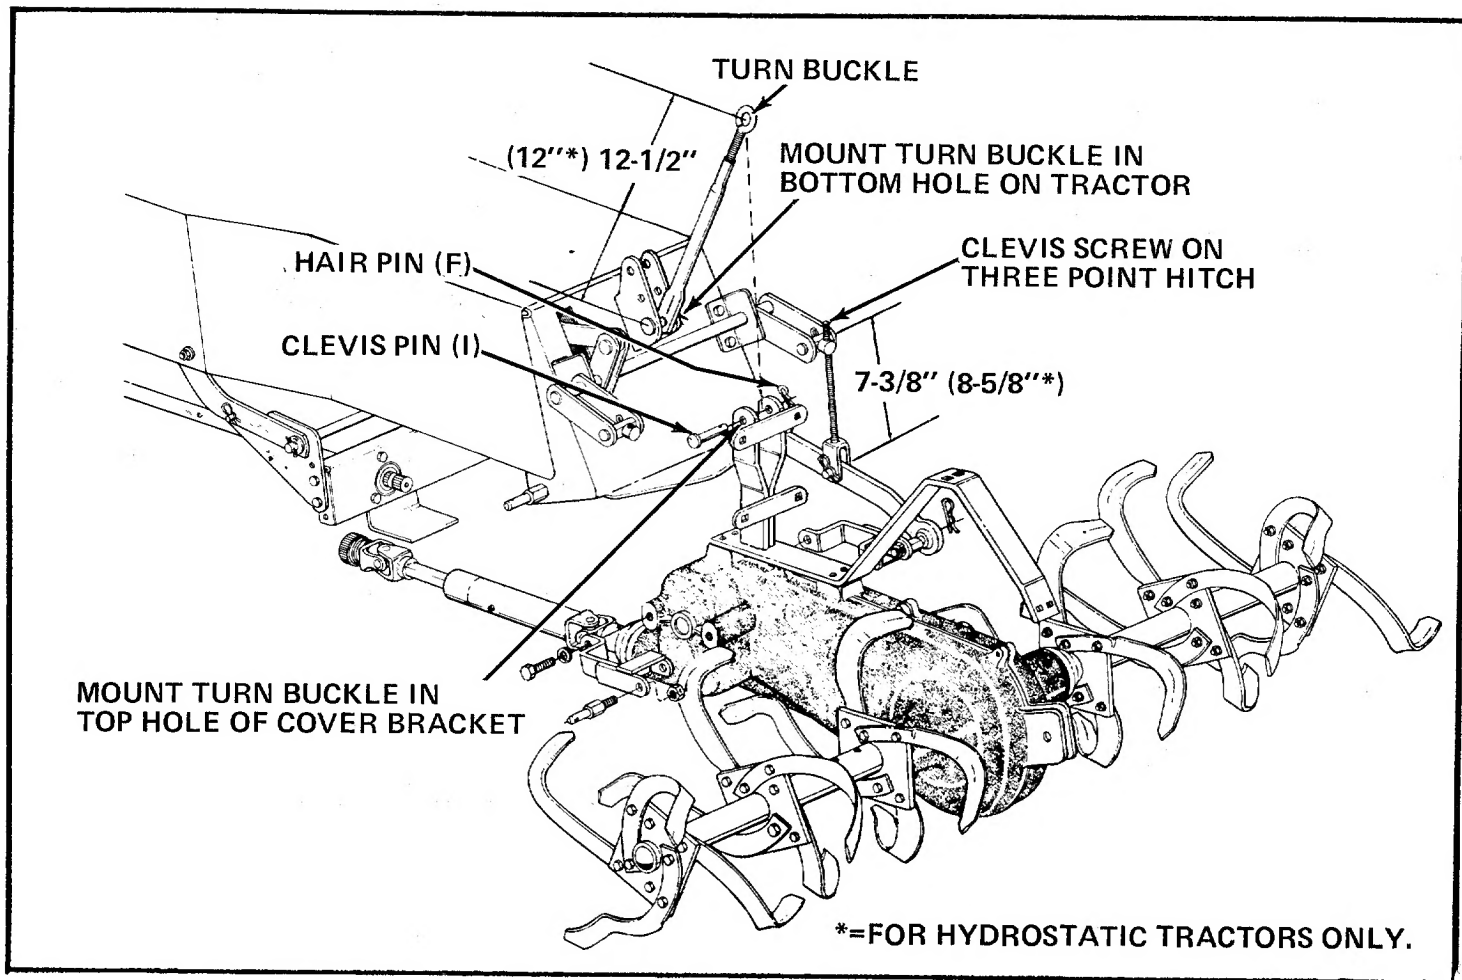

FIGURE 21
11. Preset the clevis screws on three point hitch to 7-3/8" as shown. See figure 21.
13. Preset turn buckle to 12-1/2 inches as shown. See figure 21.
14. Assemble turn buckle to tractor using the bottom hole of bracket on tractor. See figure 21.
15. Assemble other end of turn buckle to tiller cover bracket, using the top hole. Secure with clevis pin (I) and hair pin (F). See figure 21.
The dimensions shown in figure 21 will allow approximately eight inches of tilling depth, and approximately five inches of ground clearance.
The dimensions given under adjustments and in figure 21, may also vary depending upon soil conditions.